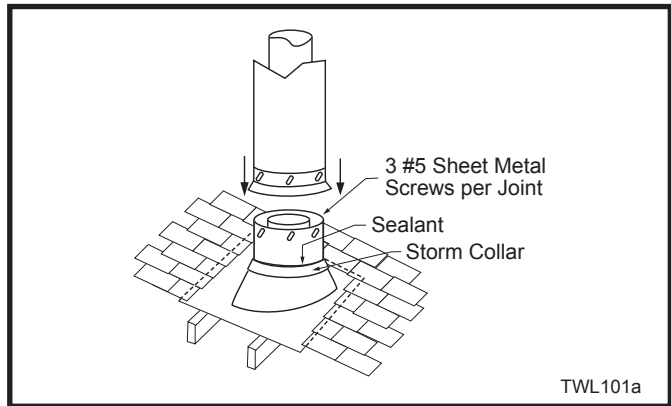

Fig. 33 Roof flashing.
7. Install roof support (Fig. 33) and roof flashing, making sure upper flange is below the shingles. (Fig. 33)
8. Install appropriate pipe sections until the venting is above the flashing. (Fig. 33)
The enlarged ends of the vent section always face downward. (Fig. 33)